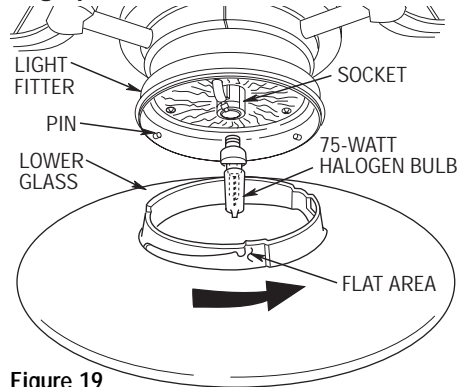

Figure 19
- 7. Screw the 75-watt (maximum) halogen bulb (supplied) into the light fitter socket (Figure 19). Do not touch the glass bulb; use the porcelain base to screw in the bulb, or wear soft gloves.
- 8. Place the lower glass into the light fitter, aligning the three flat areas on the top flange of the lower glass with the three pins on the inside of the fitter (Figure 19). Then turn the lower glass clockwise until it stops turning.